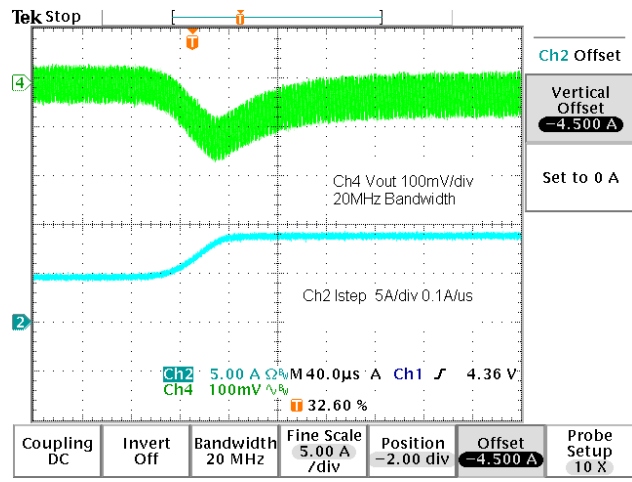

Figure 10 Transient Response 25%-50% 0.1A/us (Ch2 = Iout 5A/div Ch4 = Vout 100mV/div AC)
- 6.3. Turn on the enable switch and record the transient response of the PI3101. It should look like the the plot in Figure 10.